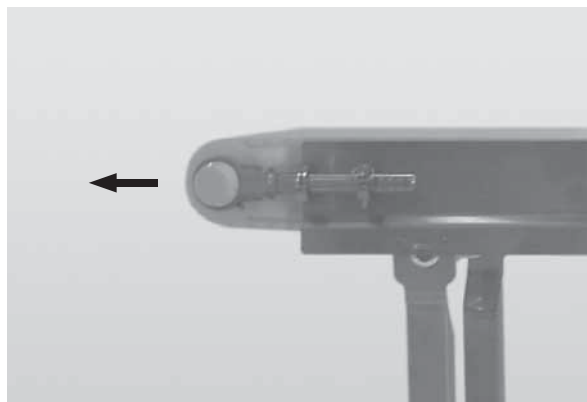

Figure 46
9. Extend the tension end to remove excess slack in the belt (**Figure 46**).